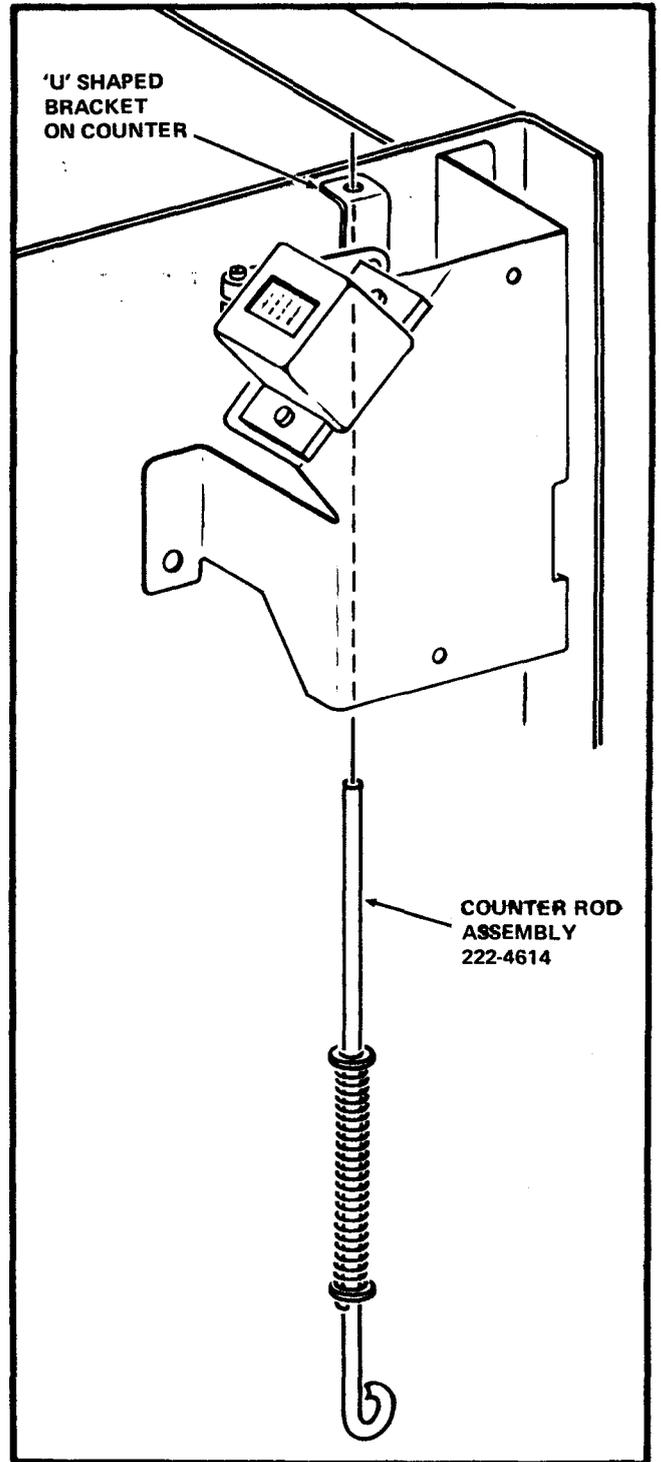

FIGURE 6
14. Insert the Counter Rod Assembly, part number 222-4614, up through the two holes in the "U" shaped Bracket on the Counter Arm. See Figure 6.